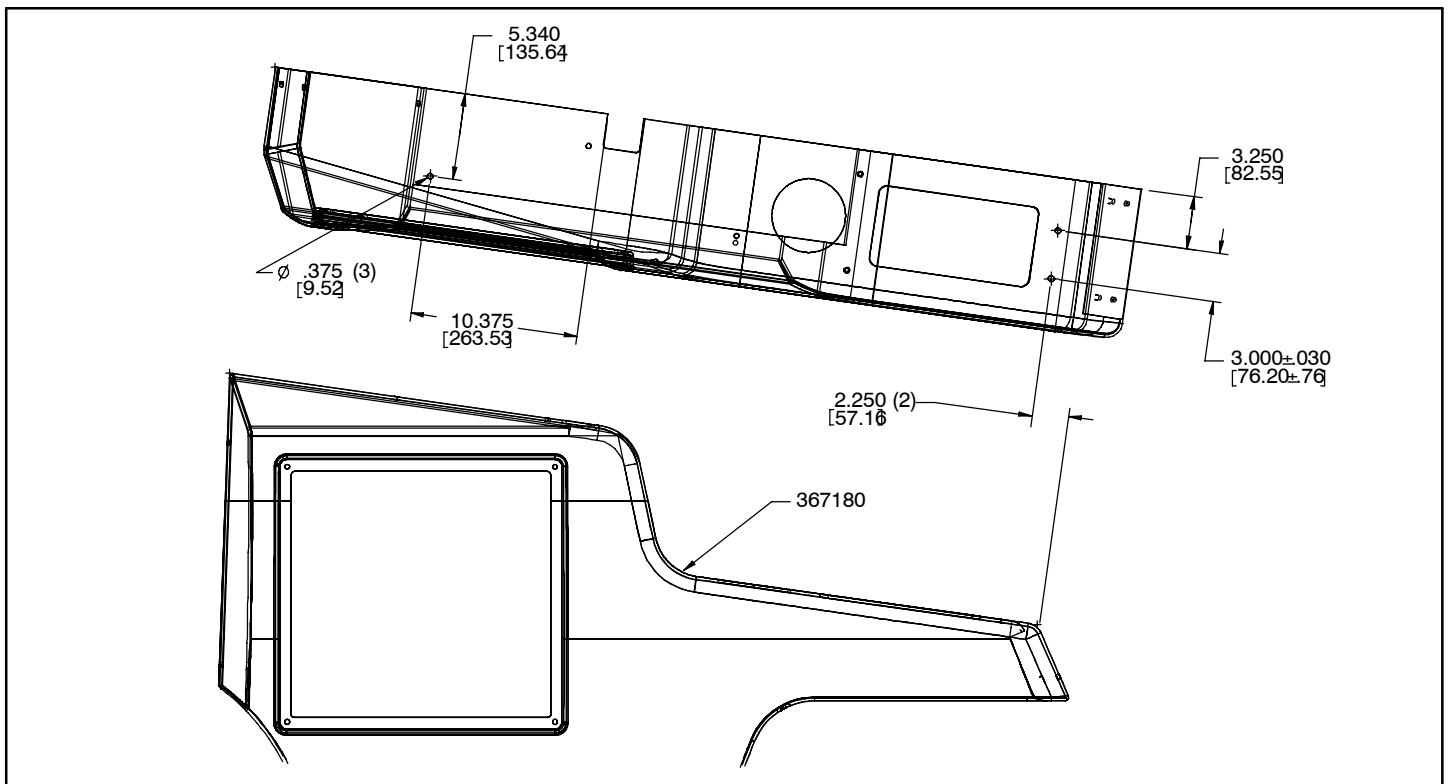

FIG. 1 - PANEL REWORK
2. Drill two mount holes into the right side panel. Refer to Fig. 1 for dimensions